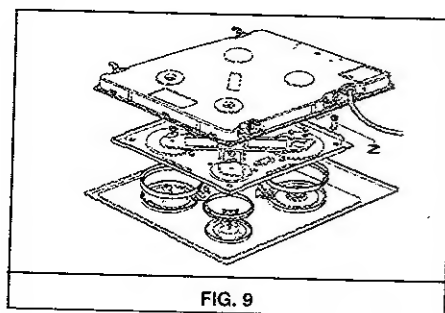

FIG. 9
a) Remove the hotplate from the top of the cabinet, overturn it, unscrew screw "Z" and remove under part (see fig. 9).
For access to the various parts, remove the hotplate from the top of the cabinet. Then overturn it, unscrew screw "Z" and remove under part. (see fig. 9).